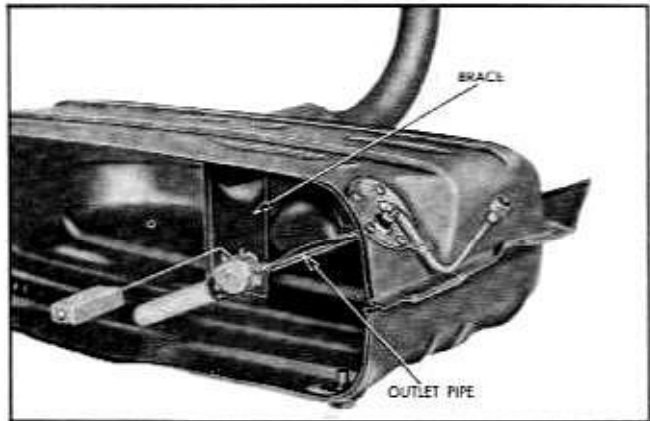

Fig. 12-76 Fuel Gauge Tank Unit Installed in Tank
4. Install attaching screws and tighten securely (Fig. 12-76).